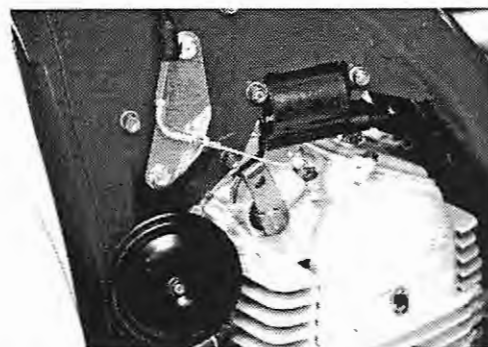

Figure 4.8
3. Remove decompression cable from cylinder head. (Figure 4.8)